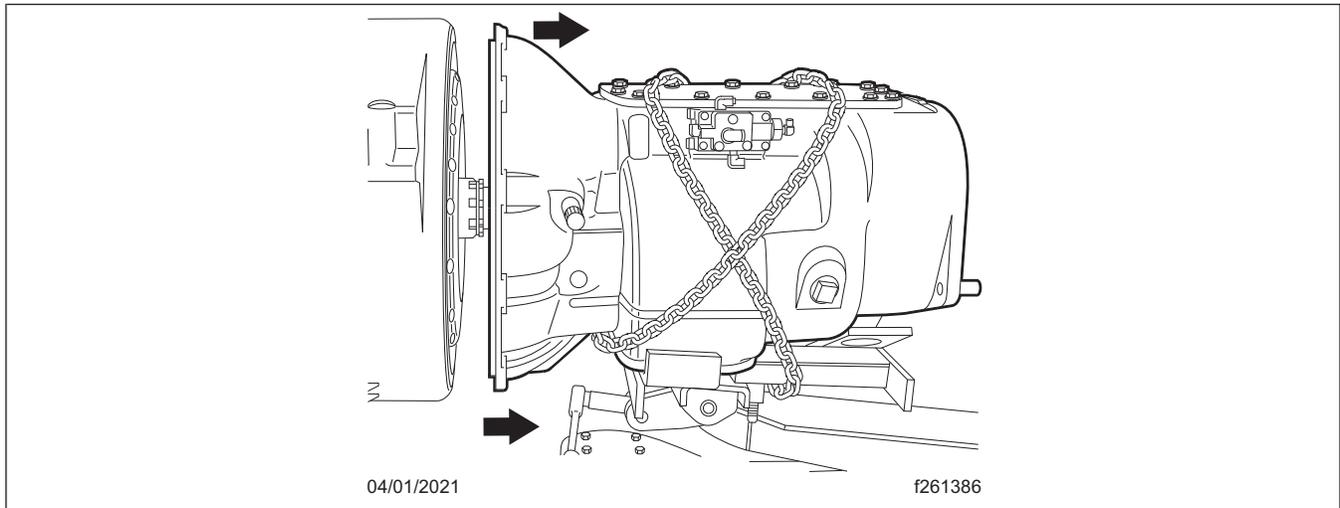

Fig. 31, Transmission Removal
26. Pull the transmission back, until the transmission input shaft is clear of the clutch and the engine flywheel housing. Lower the transmission. See Fig. 31.